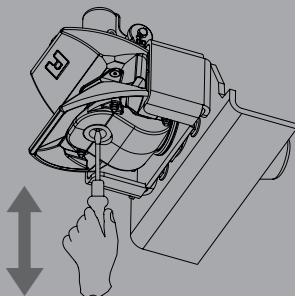

Fig. 9
- Maximum vertical play on coupling pin (see Fig. 9) is **1.8 mm**.